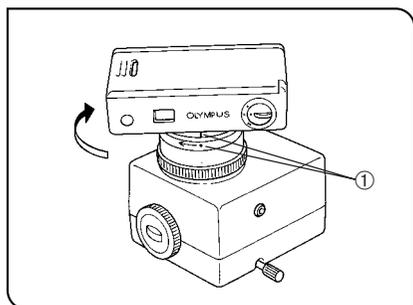

Fig. 3
2 Attaching the PM-C35DX Automatic 35 mm Camera Back (Figs. 3, 4)
1. Align the positioning indices ① on the camera adapter and camera back, then turn the camera back clockwise as indicated by the arrow while pressing lightly on its back. The locking pin automatically locks the camera back in place. (Fig. 3)